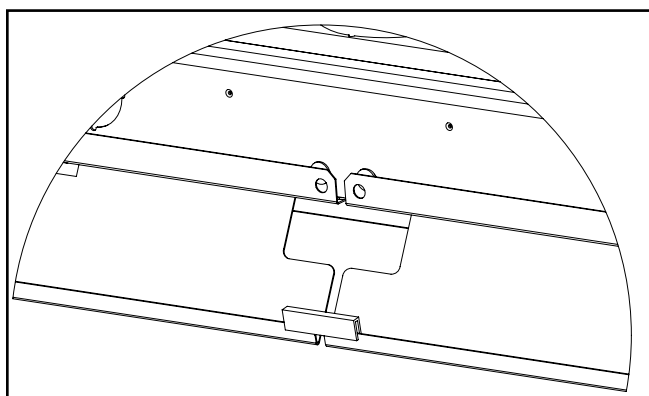

Figure 6.
5. When applicable, align reflectors of adjoining fixtures using row aligners as shown (Figure 6.)